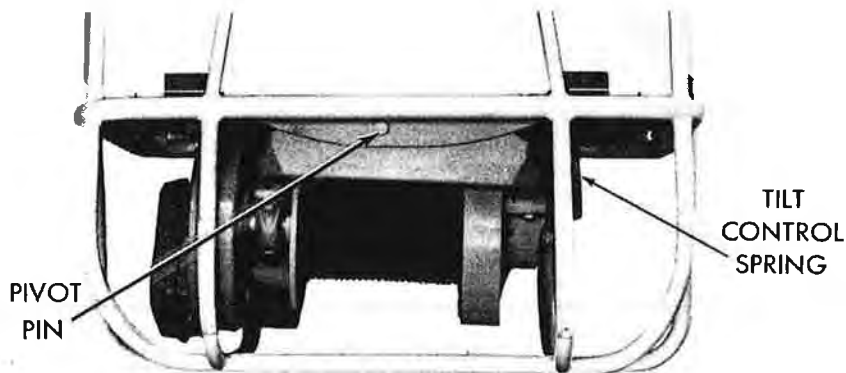

Figure 13
**Wire Rope Level Wind System (Fig. 13)**